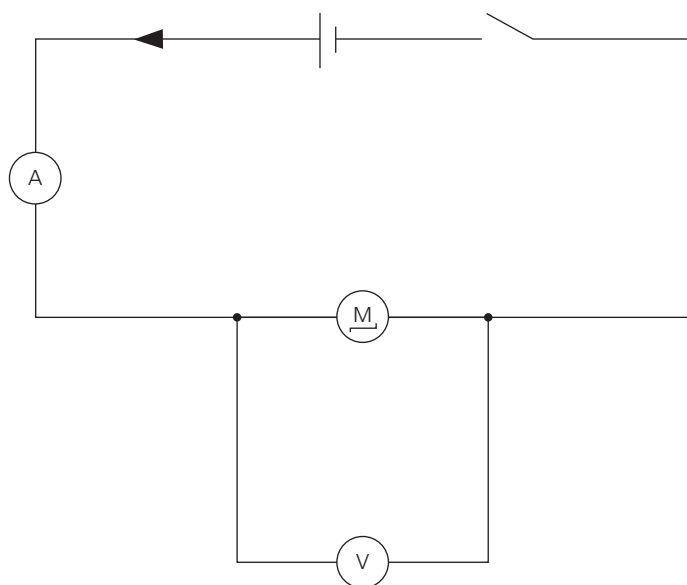

Figure 1
- 1 Connect the battery, ammeter and electric motor in series as shown in Figure 1 overleaf.